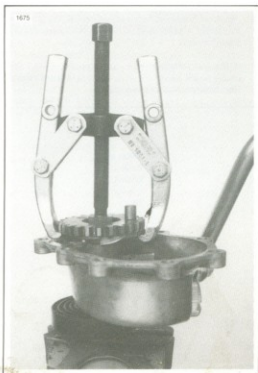

Figure 7-30. Removing Starter Crank Gear
SIDE COVER-KICK START (Figure 7-30)
5. See Figure 7-30. Place the nut back on the crankshaft. Install Harley-Davidson ALL-PURPOSE CLAW PULLER, Part No. HD-95635-46, as shown. Remove the gear and nut.